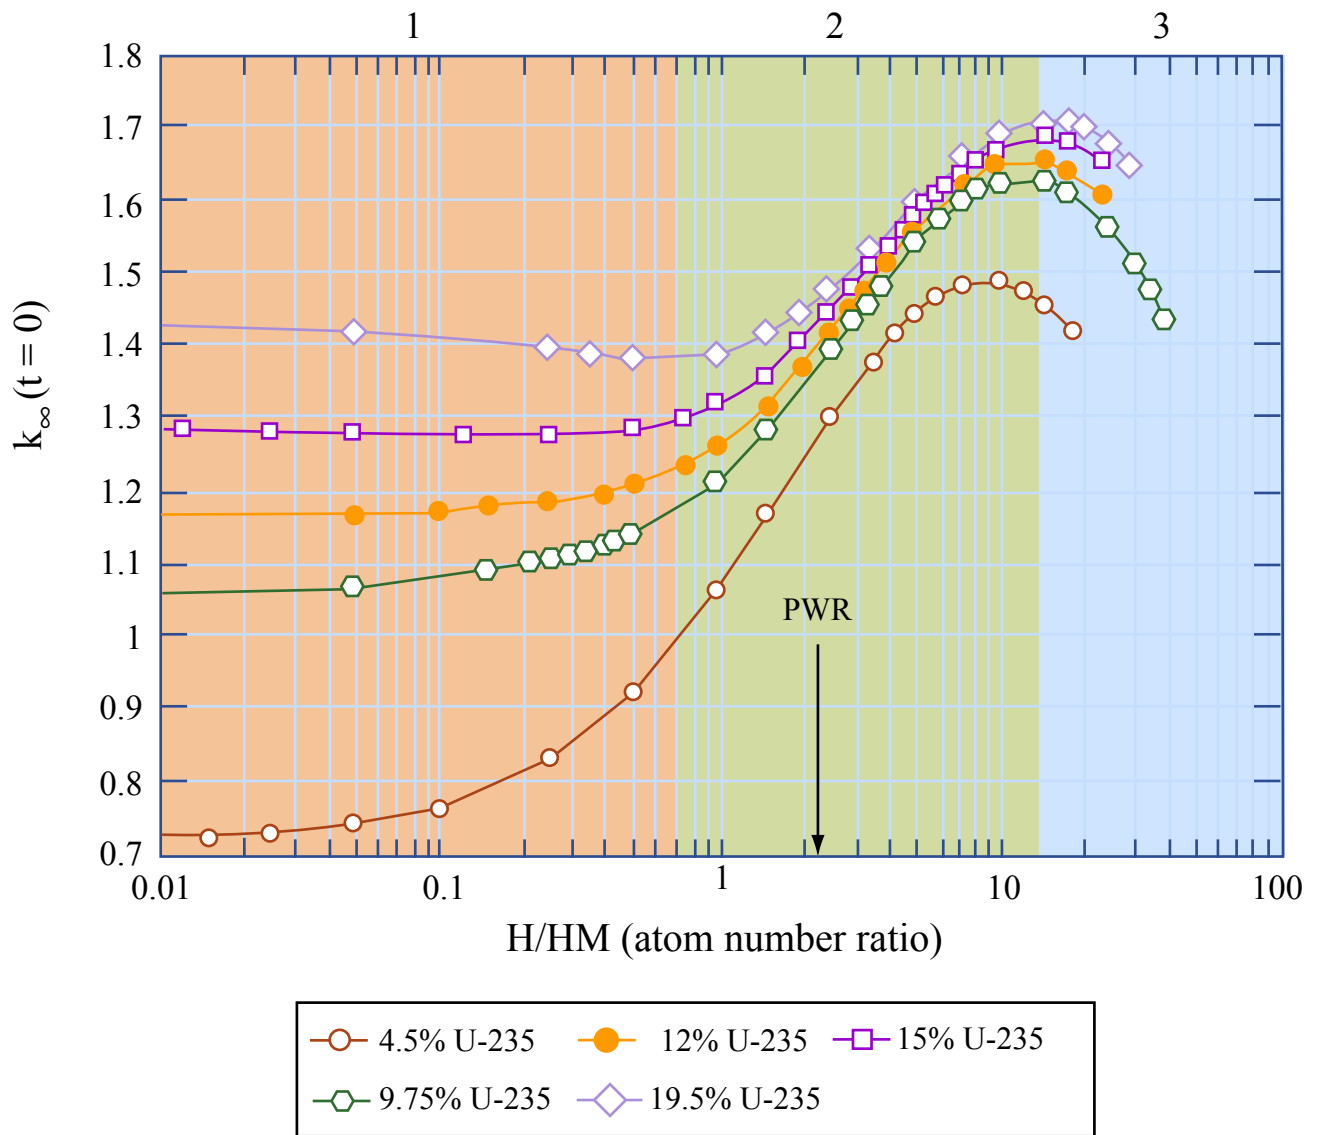

Fig. 1 Initial k_{∞} as a function of hydrogen-to-heavy-metal ratio for uranium fueled lattices.
- 2) What are the implications for operation in region (3) rather than (2) in Figure 1 for
- 3) Consider the engineering aspects of the core design, where would you expect to draw lines in Figure 1 to represent heat transfer limiting lines for steady state operations.
- 4) Would you want the reactor to be designed at the point of maximum B_1 between (2) and (3)? Explain any considerations that you will have to consider